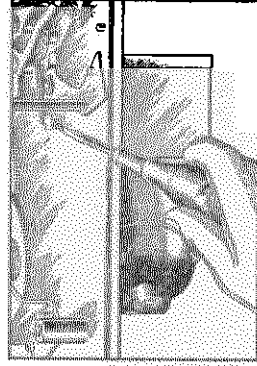
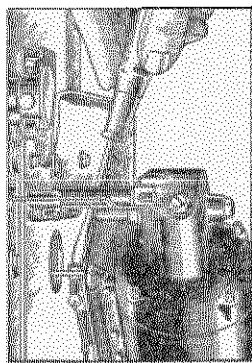

Figure 6—Adjusting tone arm locating screw
Figure 7—Adjusting base screw turntable eccentric
- (b) Improper adjustment of tone arm locating screw. This adjustment, shown in Figure 6, can be used to make a substitute adjustment for that described in (a), when the mechanism is out of the cabinet. Make the adjustment so that the needle will lower exactly $\frac{1}{16}$ " from the first groove on a standard 10-inch record. Loosen the lock nut on the adjusting screw by means of a No. 4 Spintite wrench on which the shoulder has been ground sufficiently thin for clearance. Do not attempt to make this adjustment without first loosening the lock nut. Tighten the lock nut when the proper adjustment has been made.
(4) FAILURE OF NEEDLE TO LOWER ONTO RECORD SURFACE
- (e) Incorrect adjustment of cable tension screw. The cable tension screw shown in Figure 7 should be so adjusted that the needle will lower smoothly onto the record without dropping. When this adjustment is obtained, the cable will be slightly loose when the needle is lowered onto a record. Loosen the lock nuts, turn the screw to the right or left as required and retighten the lock nut. Check the adjustment to make sure that the needle clears the record on the return of the tone arm. The needle should rise $\frac{1}{16}$ " from the record before any horizontal motion takes place.
(5) NEEDLE FAILS TO CLEAR RECORD AFTER PLAYING